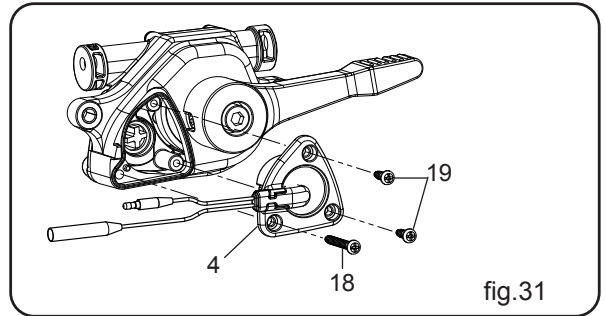

fig.31
- B. Remove the stop switch (4) by unscrewing 2 pcs tapping screws (19) and a tapping screw (18). (fig.31)